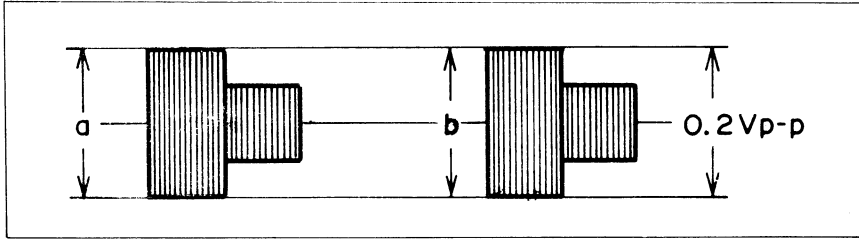

Fig. 5-74. P.B. ACC in waveform
3. Play back the VTR. Check the level differences between "a" and "b" for the waveforms shown in Fig. 5-74.